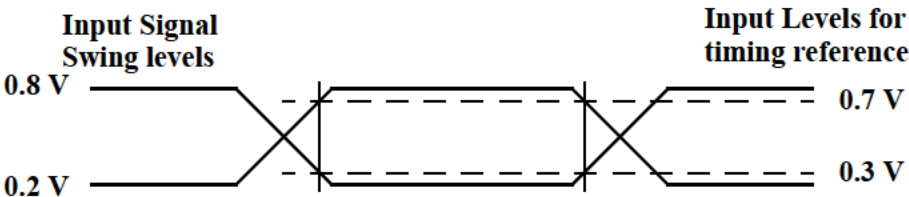

Figure 7 — AC Measurement Waveform
1. This AC measurement condition (Table 20 and Figure 7) is only for the test purpose in lab.